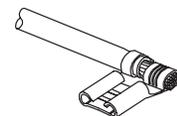

Figure 2
Select an appropriate terminal, contact, or splice for the tool. Strip the wire to the proper length (determine strip length by adding 0.794 [$1/32$] to the length of the wire barrel). Refer to Figure 2.
1. Center the wire barrel in the appropriate wire barrel crimp section. Refer to Figure 2.
1. Center insulation barrel in the appropriate insulation barrel crimp section. Refer to Figure 2.